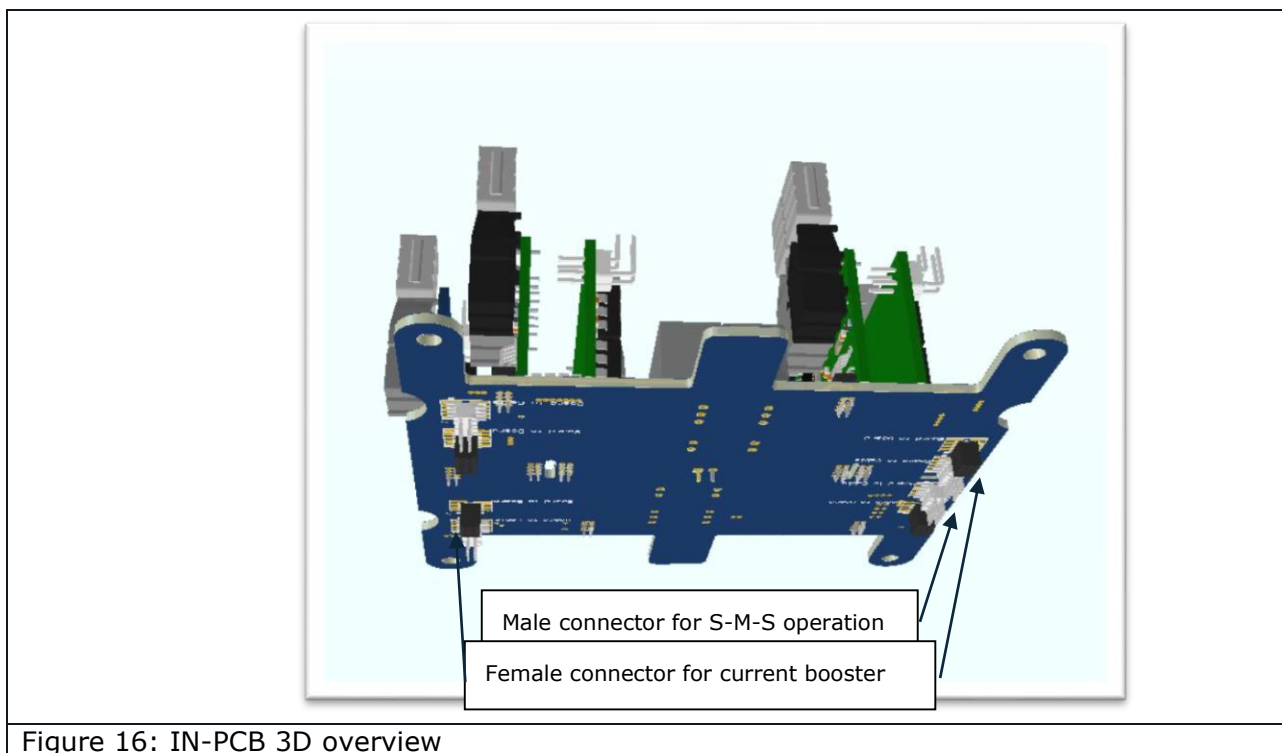

Figure 16: IN-PCB 3D overview
- Makes possible the SLAVE-MASTER-SLAVE operation by utilizing interconnection connectors: fig 16